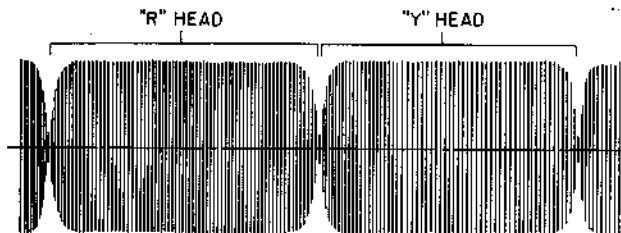

Fig. 11
- (c) Try to maintain an almost square shaped R.F. Envelope as shown in Fig. 11 (Amplitude fluctuation should be very small).